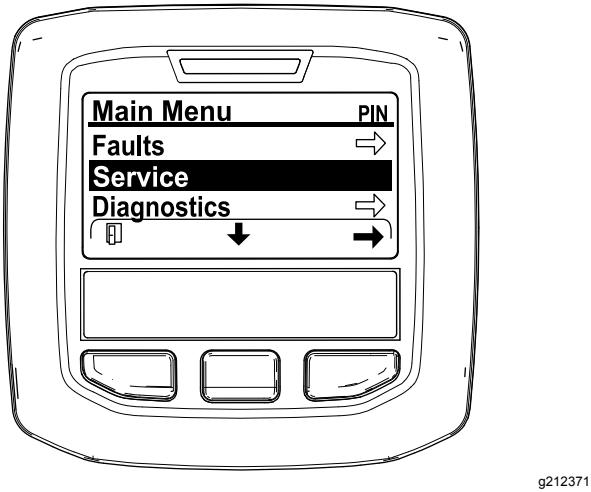

Figure 26
- Navigate to the MAIN MENU, press the center button to scroll down to the SERVICE MENU, and press the right button to select the SERVICE option (Figure 26).